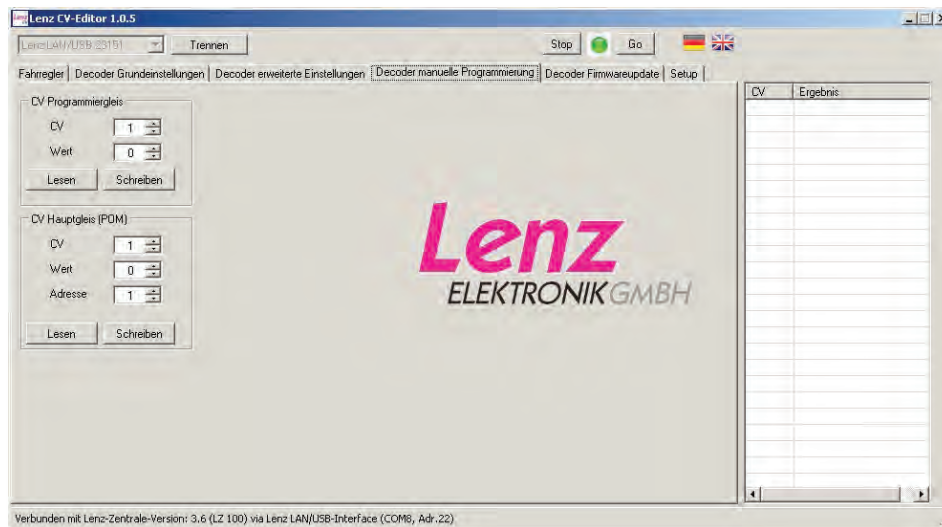

Fig. 4: Each CV can be read and written - even if you don't have a template for this decoder
- ✓ Manual programming for decoders for which no template is available (fig. 4)